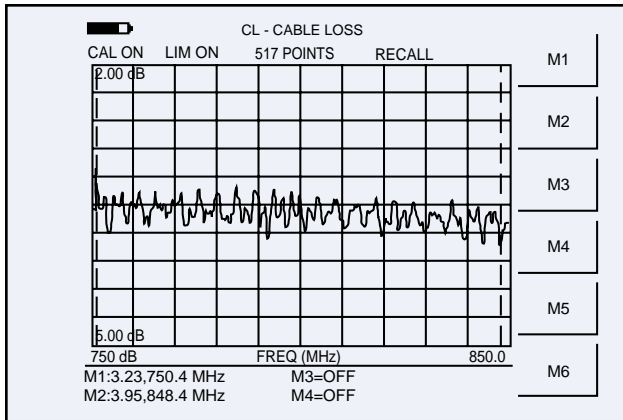

Figure 4. Typical Insertion Loss Display in Cable Loss Mode.
- Step 8. Press the **AMPLITUDE** key and set the TOP and BOTTOM values of the display. In Figure 4, the TOP is set to 2 dB, and the BOTTOM is set to 5 dB.